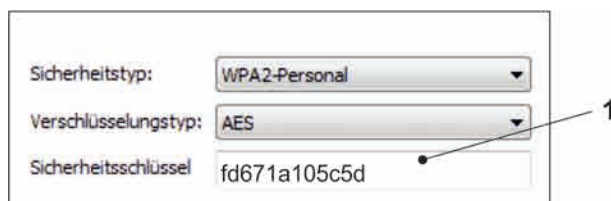

Fig. 31-22 Enter security key and connect
4. Enter the security key (password) (default state = PUK; example here fd671a105c5d) (Fig. 31-22 no. 1) and connect.